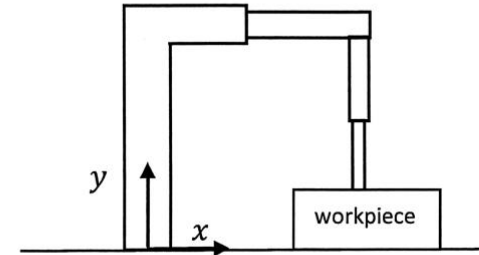

Figure 2
2. A Cartesian robot with two degrees of freedom is in contact with a workpiece, which is shown in Figure 2.